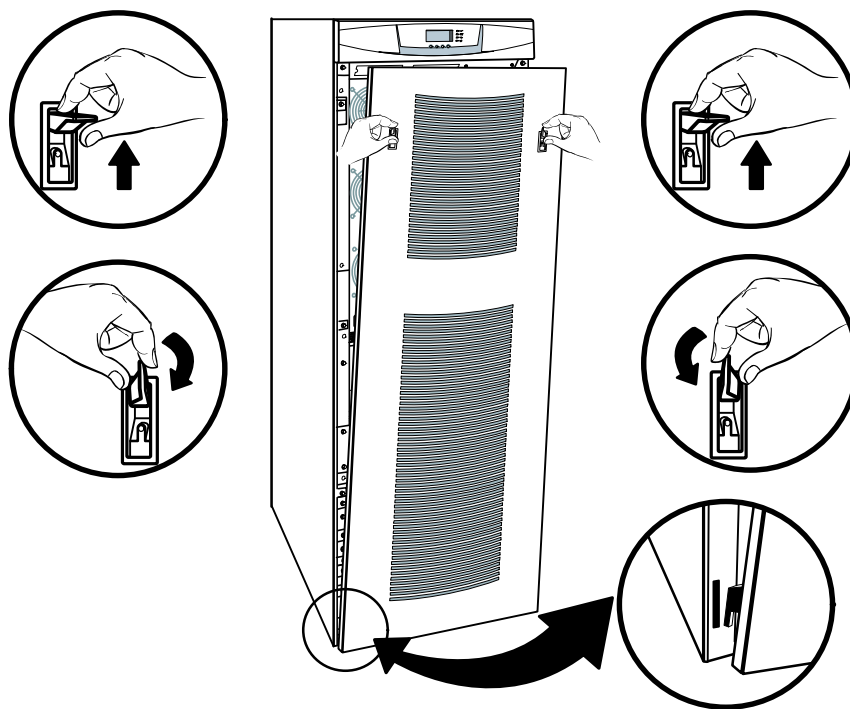

Figure 2. Removing the UPS Front Door
1. Press and rotate the latches 90° to open the front door (rotate the left latch clockwise and the right latch counter-clockwise). See Figure 2.